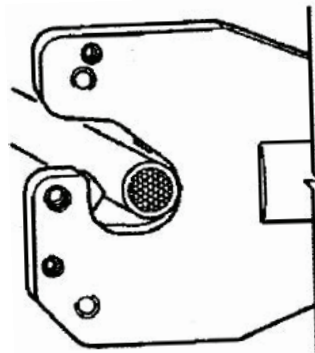

Figure 1
2. Position the connector, and center it between the indenting nibs (Figure 1). Activate the trigger and advance the nibs so the connector is held in place. Check connector for correct positioning.